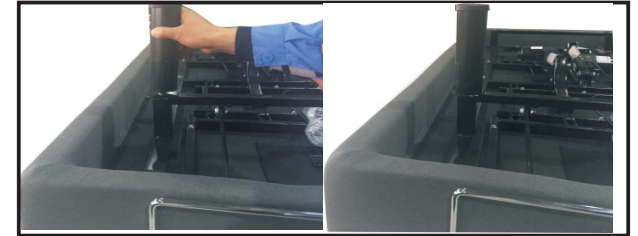

Figure 4
-Install the six legs firmly into the base of the frame. The legs screw into the threaded holes in each corner of the adjustable base frame (See Figure 4).